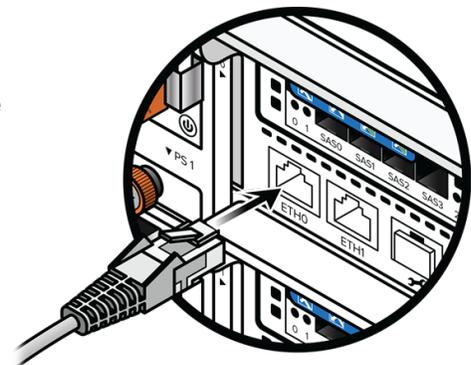

Figure 11-18. Connecting 1-GbE Cables
1. Connect the 1GbE management cable to the **ETH0** port on the controller. See Figure 11-18.